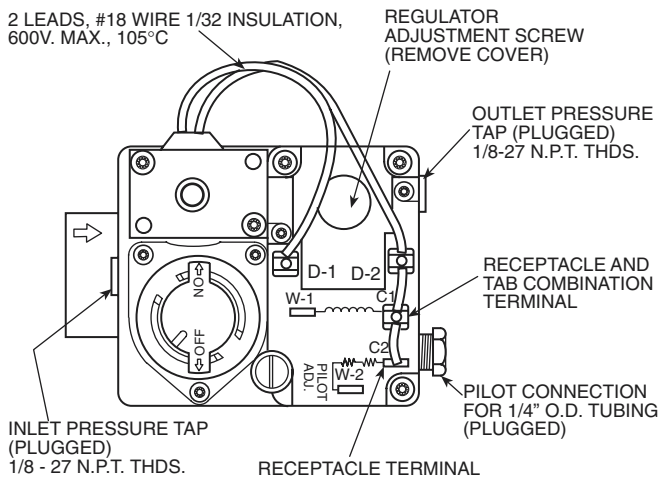

Fig. 43 — Gas Valve
6. Remove screw cap covering regulator adjustment screw (see Fig. 43).